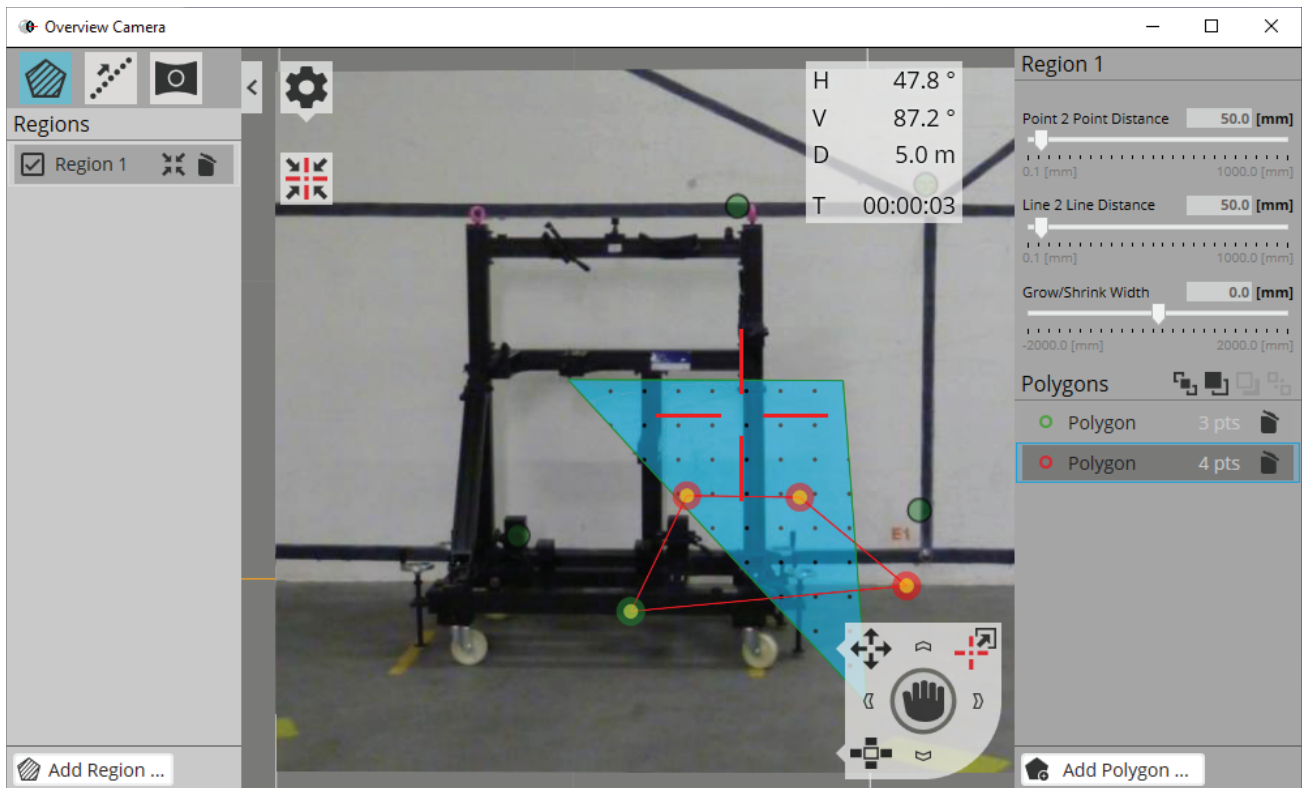

Figure 3-86. Leica Overview Camera and selection region
1. In the *Check/Set Regions - OVC* (or *Check/Set Lines*) parameter Click on the **Show Regions** (or **Show Lines**) button in the Measurement Profile Acquisition. This will open the Leica Overview Camera (Figure 3-86).